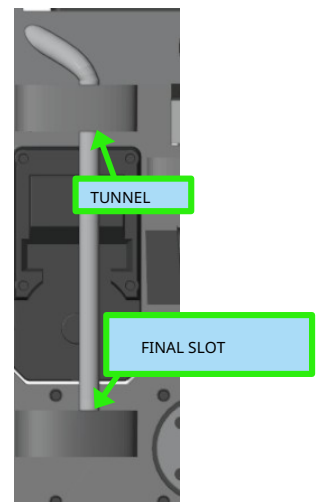

Figure 5.35
2. Take the remaining part (on the back of the skeleton) and insert it first into the passage tunnel and then into the final slot (figure 5.35).